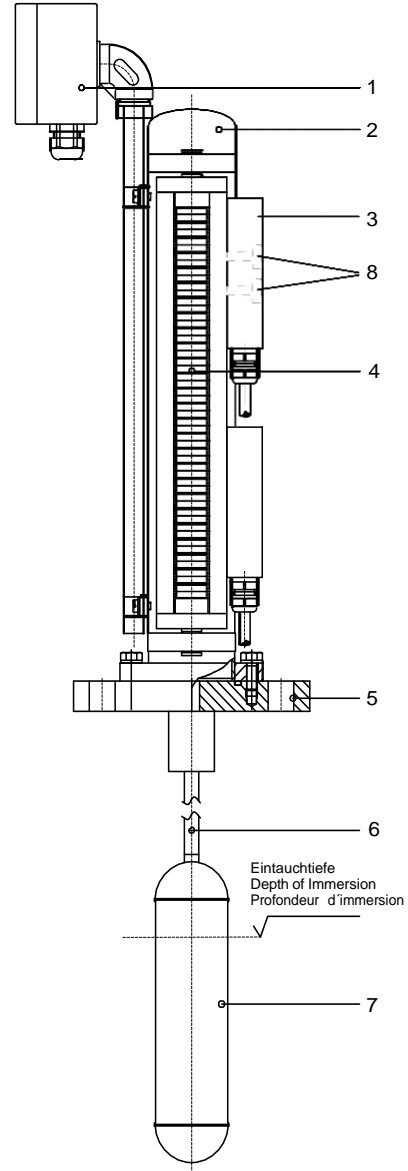

Fig. 1
The magnetic switch is attached to the magnetic roller display (4) of the UTN..EX indicator (6) by means of tenon blocks. (Fig. 1)